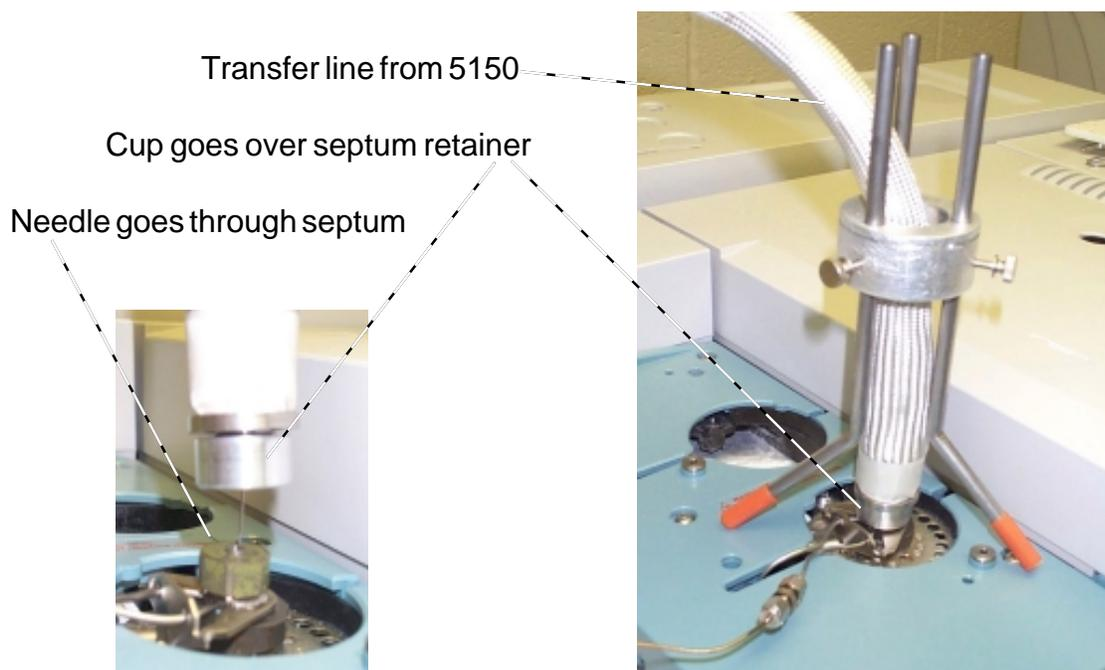

FIGURE 5.8. Heated transfer line at GC injection port.
Connection to the GC is made using a heated transfer line which terminates with a needle which is simply inserted through the septum of the GC. The end of the transfer line is recessed so that the heated line covers the injection port septum retainer to eliminate a cold spot. The end of the transfer line at the GC may be stabilized using the transfer line stabilizer as shown in Figure 5.8.
5. Pass the GC end of the transfer line (with the needle) through the stabilizer and insert the needle through the septum of the GC (Figure 5.8).